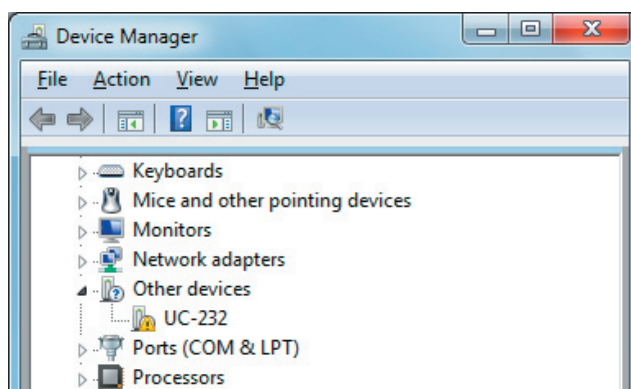

Fig. 10. Device manager - Device with a Yellow Warning Symbol.
- 3) In the Device Manager window there will be a device under Other Devices with a yellow warning symbol (see Figure 10) to indicate a problem (no driver installed).